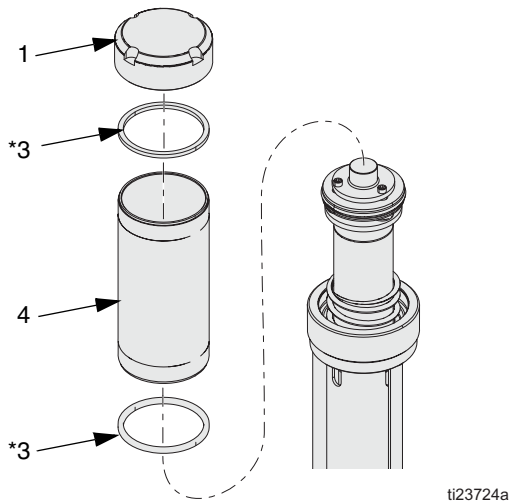

FIG. 10
1. Remove cap (1), cylinder (4), and square gaskets (3\*). Inspect all parts, including spring under cap (not shown in FIG. 10) for damage and replace if necessary. See FIG. 10. Unscrew by hand or use a chain wrench to prevent distortion of the cylinder's shape.